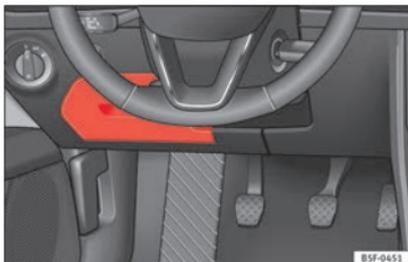

Fig. 100 On the driver-side dash panel: fuse box cover.
- *Opening*: fold the cover down » **Fig. 100**.